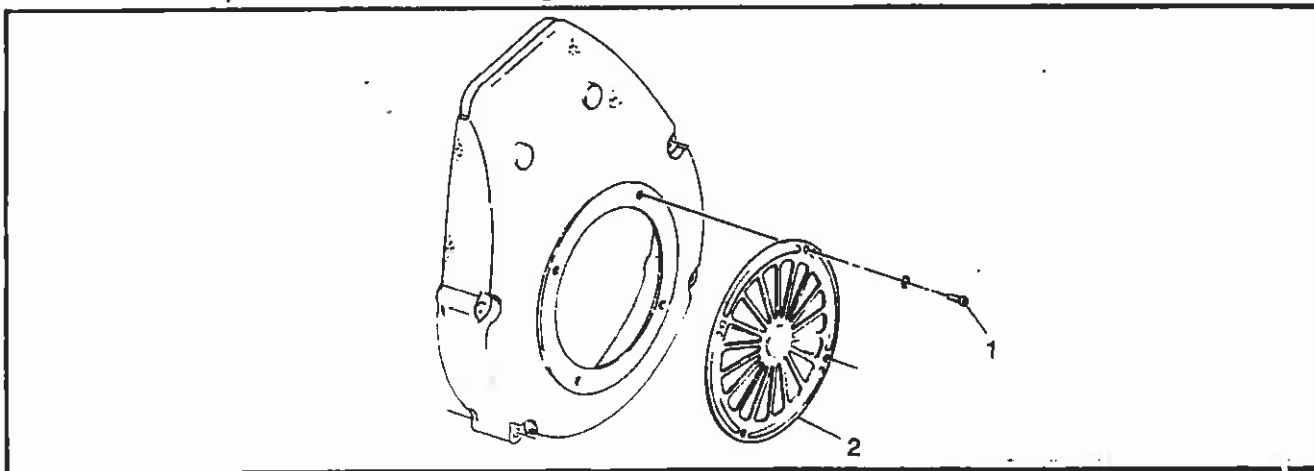

FIG. J-3 REMOVING THE STANDARD FACEPLATE
Remove the 4 Phillips head screws (1) from the dust plate and remove. (See Fig. J-3)